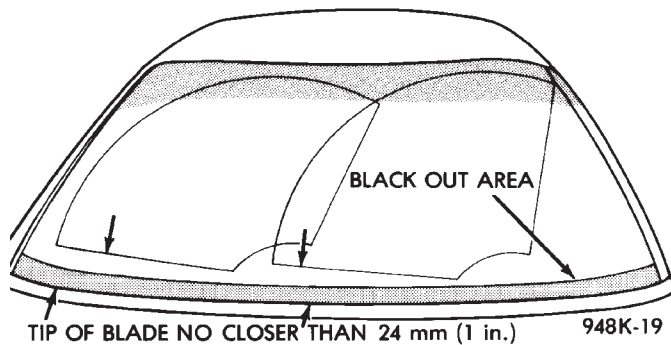

Fig. 25 Arm Adjustment
- (1) Cycle the wiper motor into the PARK position.
- (2) Check the tips of the blades in blackout area. From the bottom edge of the windshield to the blade should be no closer than 24 mm (1 in.) (Fig. 25).
- (3) Operate the wipers if the requirements are not met, check linkage and pivot assembly for worn parts.
- (4) During high speed wet glass operation, the right hand blade tip may override the cowl screen slightly. This is normal and should not affect the wiper system's performance.
- (5) The wiper arm is supplied with a plastic key insert that aligns with a slot in the pivot.